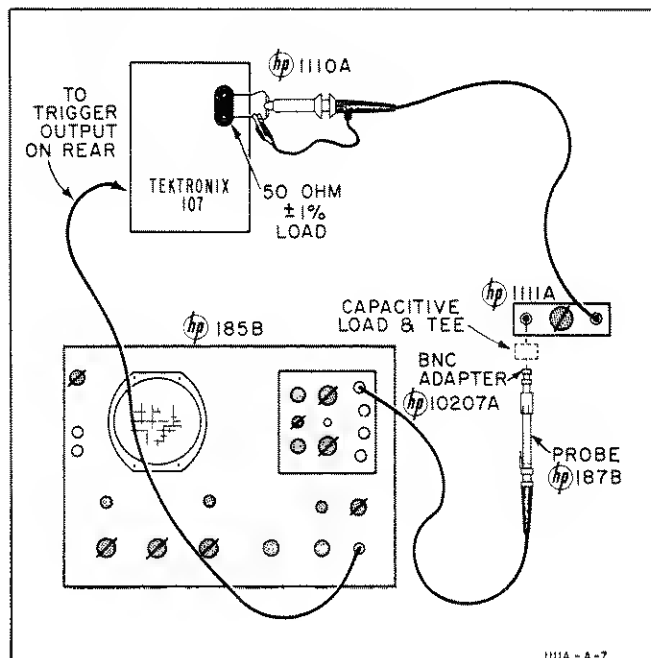

Figure 5-5. Pulse and High Frequency Response Test Setup
a. Refer to Table 5-1 and Figure 5-5, and connect specified equipment, items 3, 6, 7, and 8. One additional item is required: a capacitive load, described in Paragraph 5-3. Use a BNC tee connector to connect the capacitive load and oscilloscope probe to the Model 1111A output.